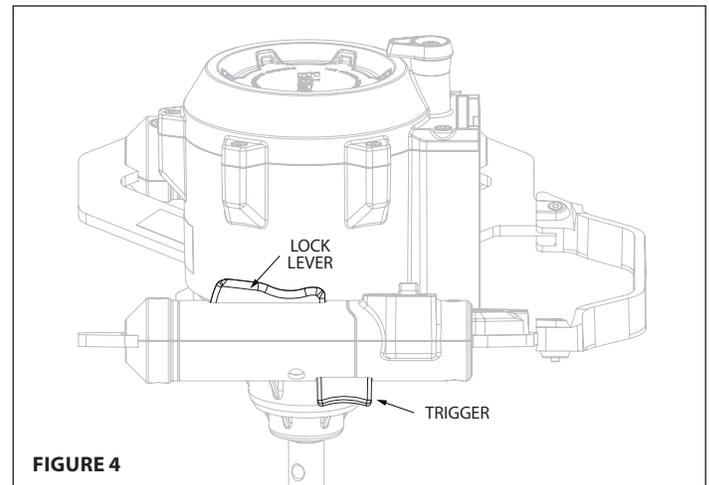

FIGURE 4
2. Depress the lock lever, then squeeze the trigger and the auger will start drilling. **SEE FIGURE 4**